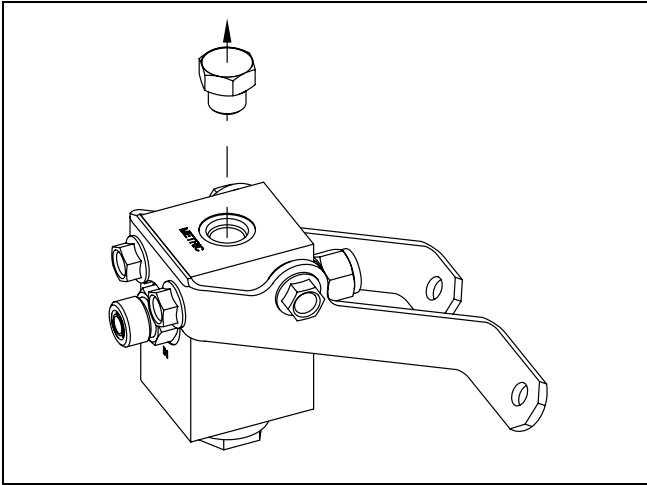

Figure 4: Removal of plug from regulator assembly.
13. Remove the M14 hex head plug with disogrin o-ring from regulator assembly and set aside (Figure 4).